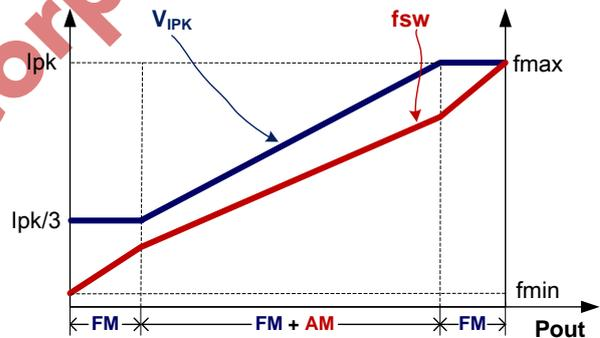

Fig.1
To meet the tight requirement of averaged system efficiency and no load power consumption, a hybrid of frequency modulation (FM) and amplitude modulation (AM) is adopted in KP1505X which is shown in the Fig 1.